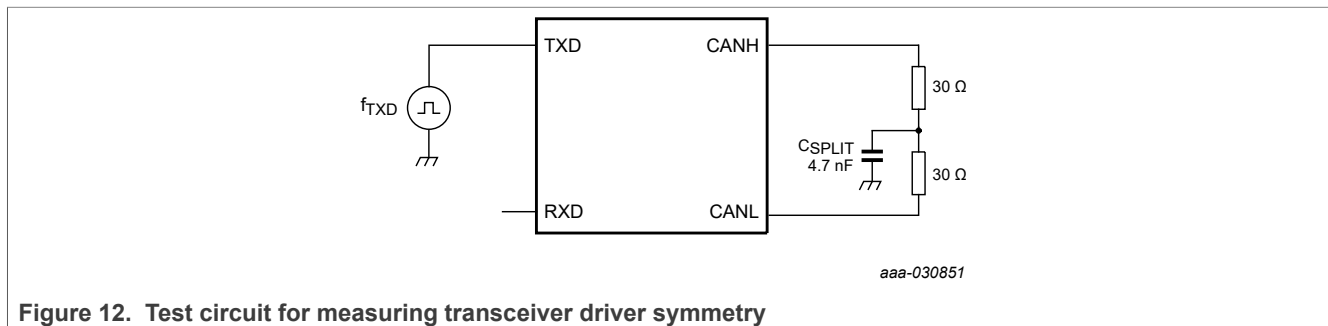

Figure 12. Test circuit for measuring transceiver driver symmetry
- [5] The test circuit used to measure the bus output voltage symmetry and the common-mode voltages (which includes  $C_{SPLIT}$ ) is shown in Figure 12.